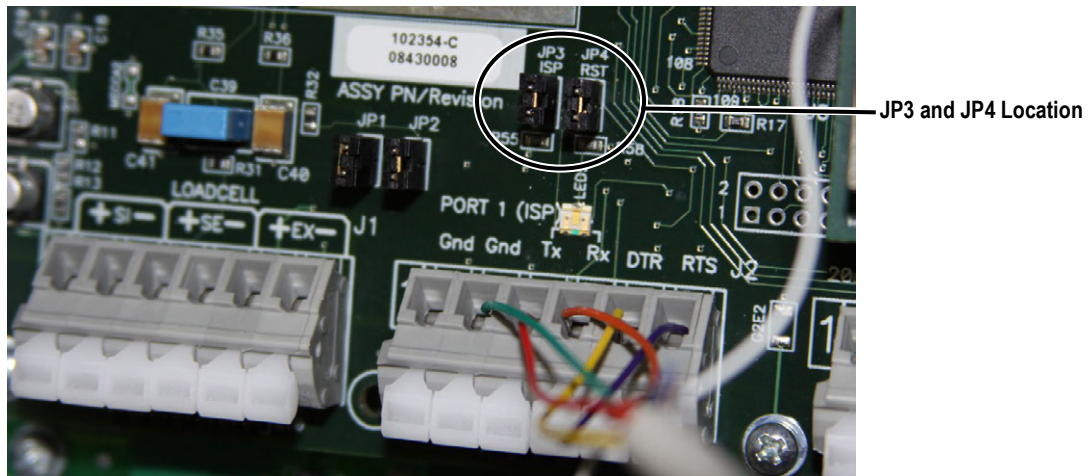

Figure 8-4. Jumpers Installed on JP3 and JP4
10. When complete, remove the jumpers shown in Figure 8-4 on page 86 and power up the indicator.